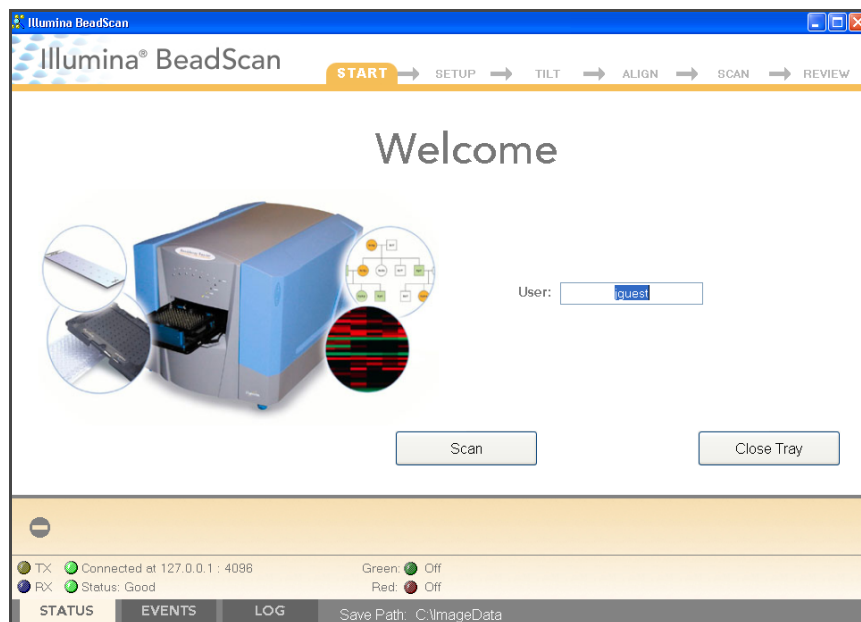

Figure 7 BeadScan Welcome Screen
4. The BeadScan Welcome screen (Figure 7) prompts you for your user name.